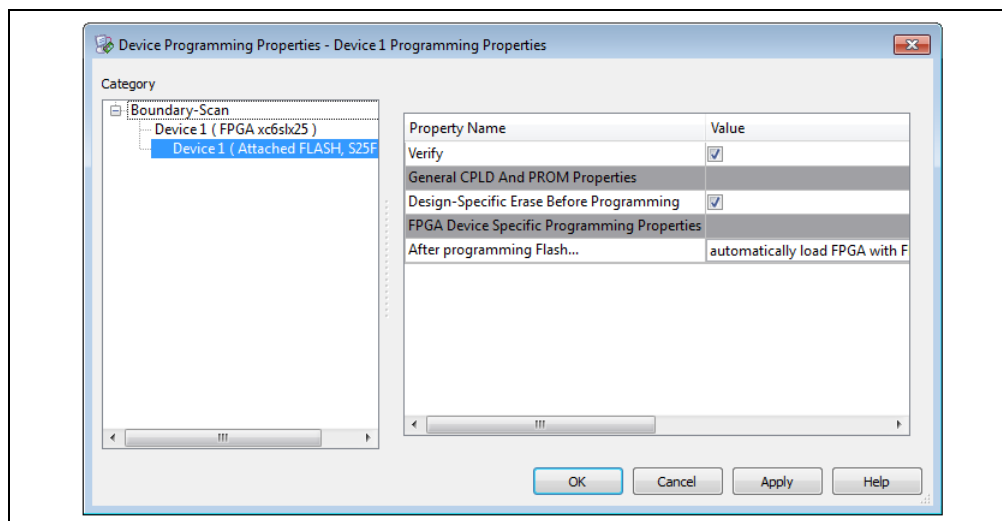

FIGURE 4-11: Device Programming Properties Window.
- The Device Programming Properties window, shown in Figure 4-11, will appear.